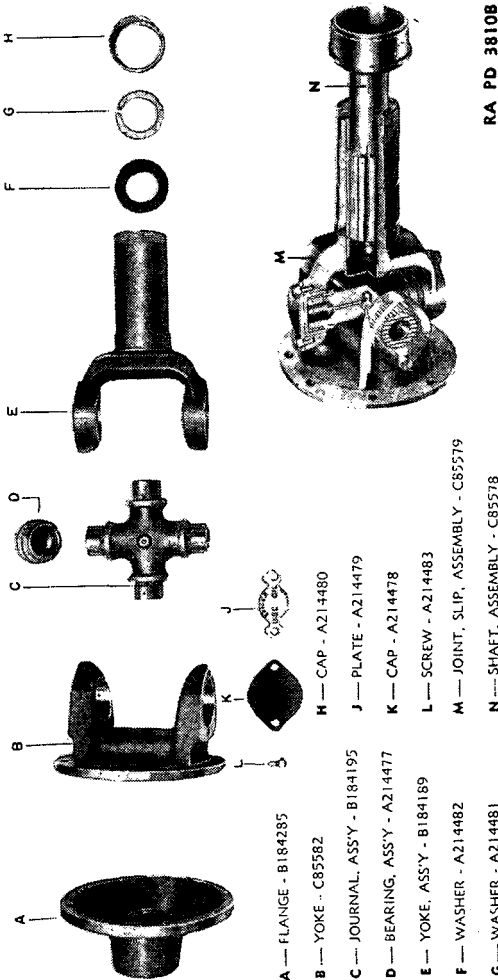

FIGURE 74.—Rear axle propeller shaft, exploded.
(4) Disassemble opposite universal joint. Follow steps (1) through (3) above.
(5) Remove slip joint. Unscrew dust cap (A160305) and pull slip joint (C85575) from shaft splines.
(6) Remove dust cap—screw driver. Lift cork washer (A160310) and split steel washer (A160309) out of cap, and slip cap over shaft splines (fig. 74).
b. Rear axle (jackshaft) propeller shaft (fig. 74).—Tools: ½-inch socket wrench, brass drift, hammer, screw driver.
(1) Remove bearing caps—screw driver, ½-inch socket wrench. Bend down locking tabs on lock plate (A214479) with a screw driver. Remove two cap screws (A214483) holding each bearing cap (A214478) and lock plate, and remove plates and caps.
(2) Disassemble remainder of shaft. Follow steps (2) through (6) in *a* above.